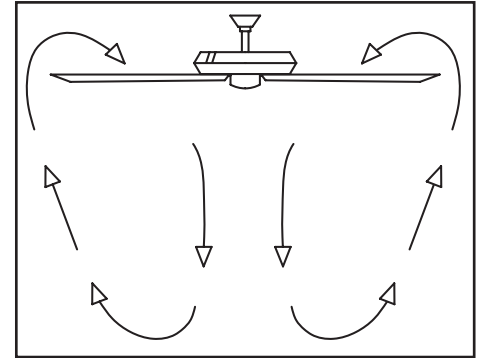

Figure 19
**Warm weather** - (Forward) A downward air flow creates a cooling effect as shown in Figure 19. This allows you to set your air conditioner on a higher setting without affecting your comfort.